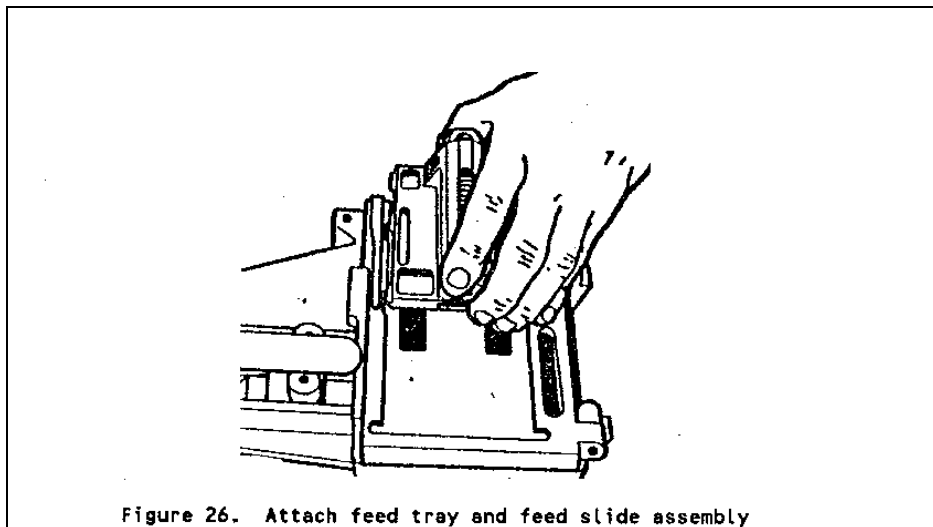

Figure 25. Attach feed tray and feed slide assembly
- h. Attach Feed Tray and Feed Slide Assembly. (See Figure 25.)
- (1) Drop tray into top of feeder, recessed side up. Pinholes on tray should line up with lugs on receiver.
- (2) Position feed slide assembly so that tabs are lined up with slots in tray.
- (3) Insert tabs into slots. Drop feed slide assembly into tray.